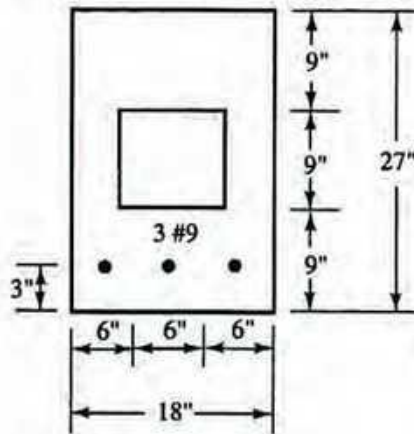
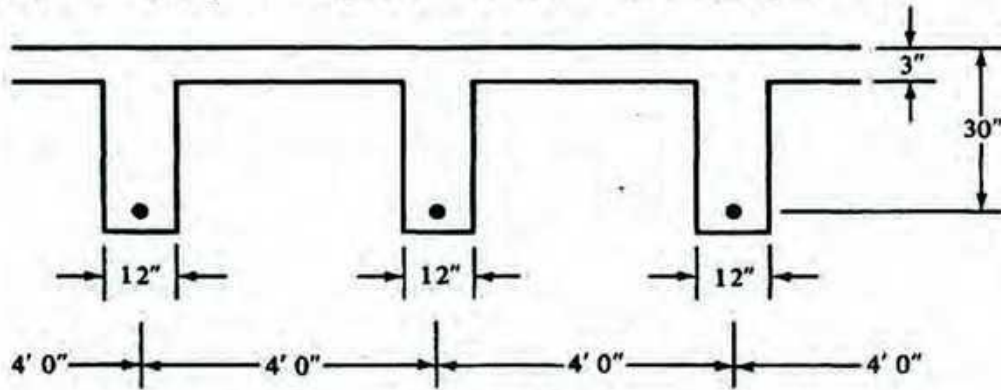

Fig. 1
Fig. 2
1. a) Calculate the uniformly distributed load (in addition to beam self-weight) which will cause the hollow section (Fig. 1) to begin crack. Given, Simply supported span = 28 ft, $f'_c = 4$ ksi, $f_y = 60$ ksi, $n=9$, concrete unit weight = 150 pcf. (5)
- b) Use Transformed Area method to determine the allowable resisting moment of the beam (Fig. 1), if the allowable bending stresses of concrete and steel are $f_c = 1.35$ ksi and $f_s = 20$ ksi. (5)
2. a) What is the justification of selecting strength reduction factor (ϕ) based on net tensile strain (ϵ_t)? Discuss the variation of ϕ with ϵ_t as given in ACI code addressing the tension controlled and compression controlled design. (3)
- b) A rectangular concrete beam of width $b = 14$ " is limited by architectural considerations to a maximum total depth $h = 32$ ". The beam must carry a service (i.e. unfactored) DL moment of 200 k-ft and service LL moment of 450 k-ft. Design the flexural reinforcement for the beam using compression steel if necessary. Assume double layer tension reinforcement. Use, $d=28$ ", $d' = 3$ ", $f'_c = 4$ ksi, $f_y = 60$ ksi, $n = 9$. (7)
3. Design a T beam for the floor system shown in Fig 2. Given, $M_D = 200$ k-ft, $M_L = 400$ k-ft, $f'_c = 4000$ psi, $f_y = 60000$ psi, $f_s = 24$ ksi, $n=9$ and simple span= 24 ft. (10)